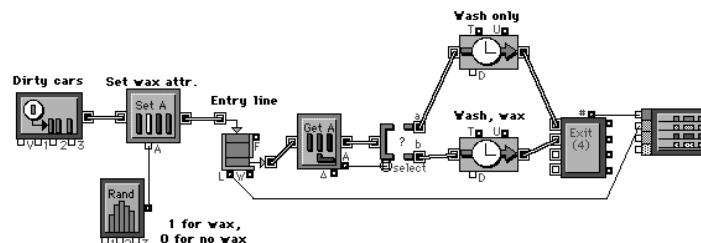
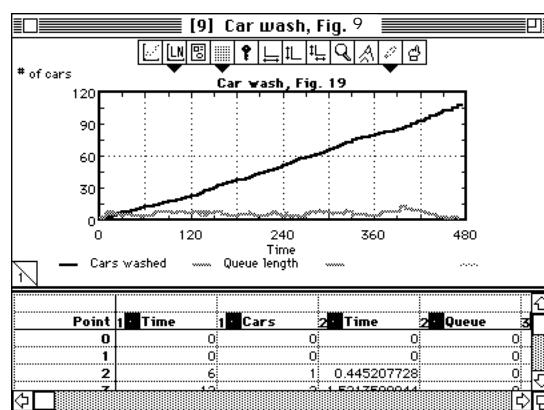

Figure 8: Attribute model
Figure 9: Output from attributes example (Macintosh)
Figure 8 shows the whole model and Figure 9 shows output from this model. Note that fewer cars pass through this car wash than the example without attributes. This is due to the problem of a car with a particular attribute following another car with the same attribute. In this case, there is only one entrance to the wash bays, so the second car must wait for the first one to finish even if the other bay is free. If you look at the numbers in the Exit (4) block, you will see that they are roughly the same as the distribution specified in the Input Random Number block.